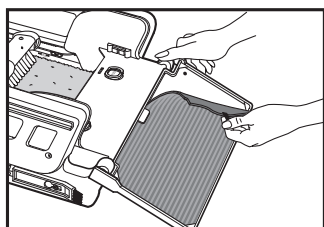

Fig. 9
- Remove mat by gently pulling on the fabric strip provided (Fig. 9).